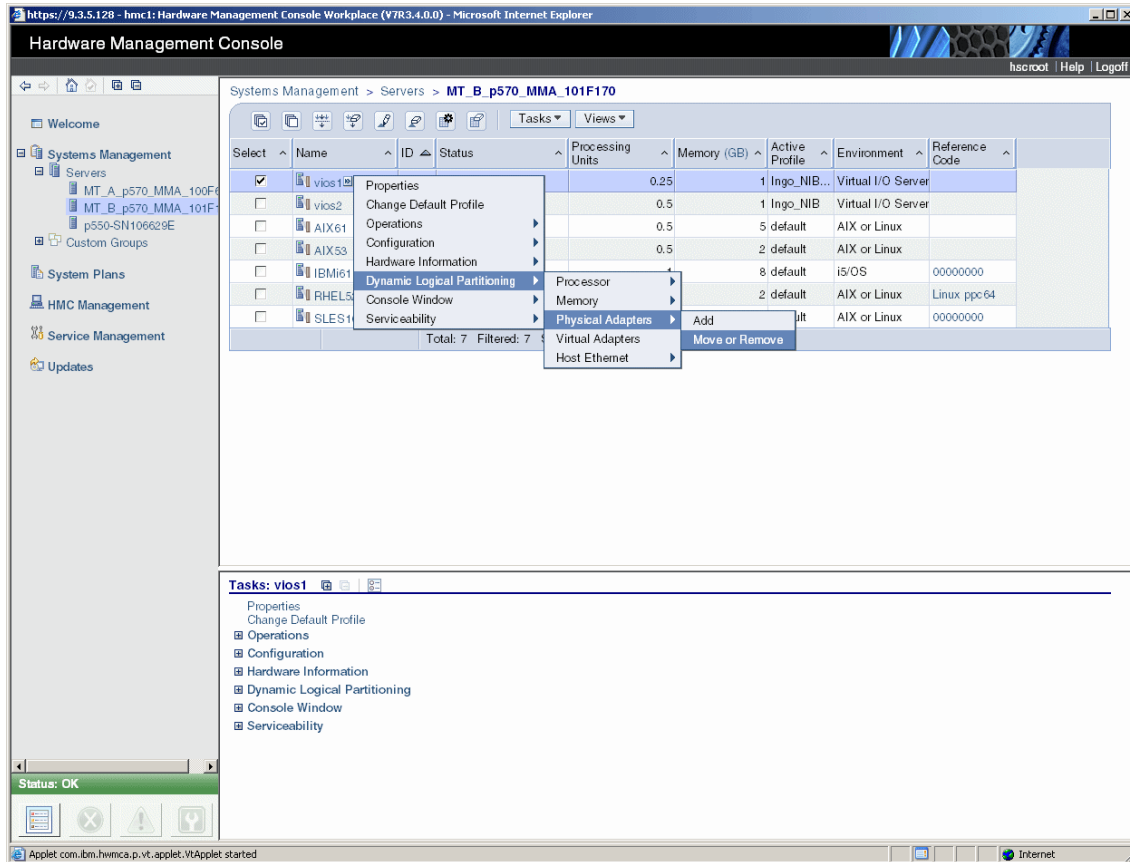

Figure 12-15 Remove physical adapter operation
1. On the HMC, select the partition to remove the adapter from and select **Dynamic Logical Partitioning** → **Physical Adapters** → **Move or Remove** (Figure 12-15).